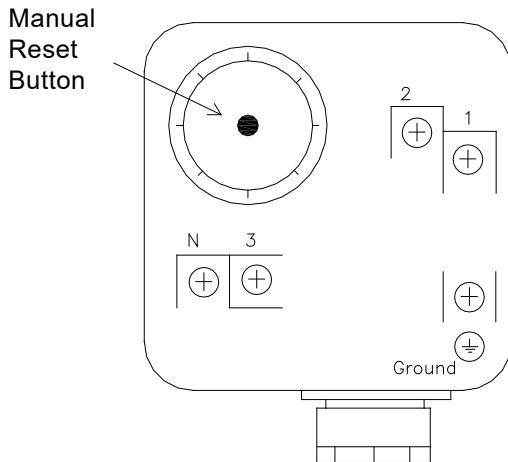

Figure 26: High/Low Gas Pressure Switch
10. If the high or low gas pressure switch tripped, it must be manually reset before the appliance can be restarted. (See Figure 26)